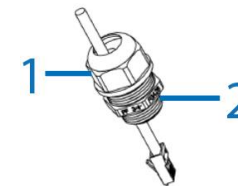

Figure 7
13. Securely attach the waterproof connector cover (1) (Figure 7) onto the threaded connector (2) (Figure 7).